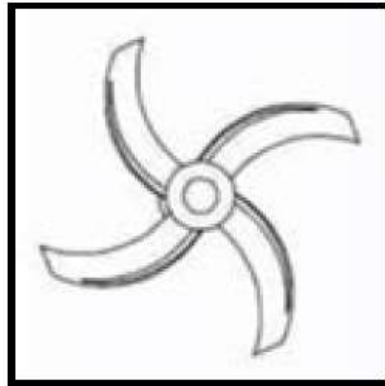

FIGURE 10.8.1
10.8 Different types of impellers are selected according to the use of the centrifugal pump. Identify the THREE impellers shown in FIGURES 10.8.1, 10.8.2 and 10.8.3 below.